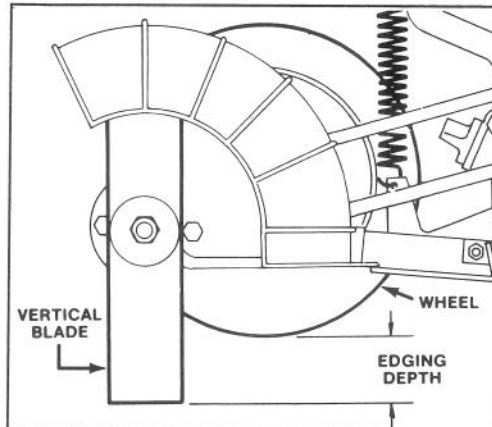

Figure 9
2. CHECK EDGING DEPTH (Fig. 9) – Squeeze blade/clutch level against handle. Space between bottom of tire and ground is actual blade edging depth. If adjustment is required, go to step 3.